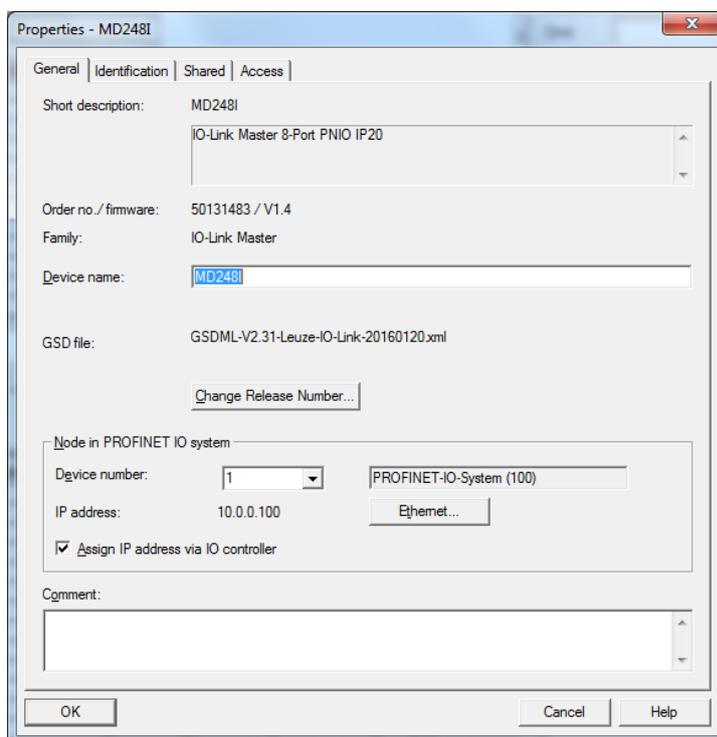

Figure 3: IO-Link Master Properties
5. Double-click the IO-Link Master; check **Assign IP address via IO controller** as shown in Figure 3.